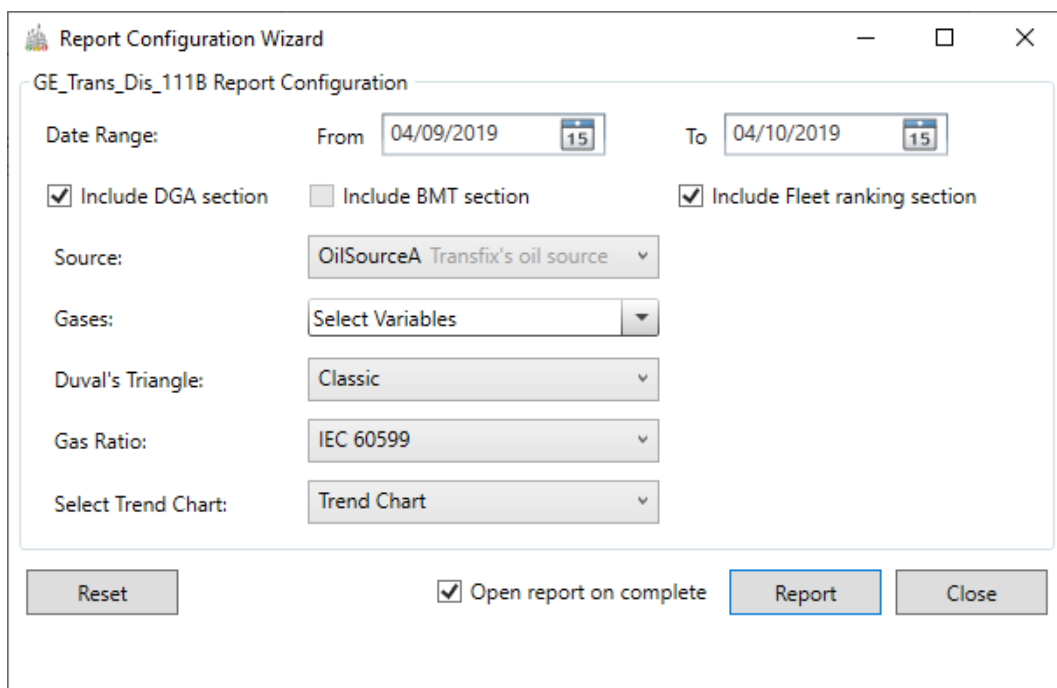

Figure 5-13: Report Configuration Wizard
The **Report** option lists the selected transformer with any qualifying child assets below. Select an asset to launch the Report Configuration Wizard as shown in Figure 5-13.
- The **Select Trend Chart** dropdown contains a list of the trend charts available for the report. If you have multiple trend charts in the device workbook area, these will appear here. You can choose to use one of the predefined trend charts or you can create a custom trend chart. To create a custom trend chart, select from the available variables to display as shown in Figure 5-13.